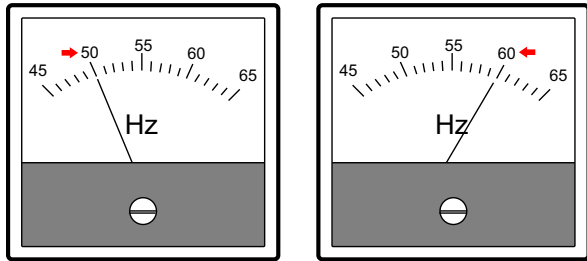

Figure 46. 50/60 Hz Frequency Meters
7. The generator's **frequency meter** (Figure 46) should be displaying the 50 or 60-cycle output frequency in **HERTZ**.